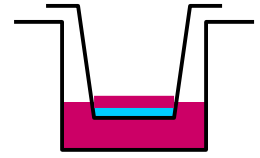

Figure 5
- Change the media without disturbing the hydrogel. As the gelled Corning PuraMatrix is difficult to see, this is best accomplished by removing approximately 2/3 of the media above the hydrogel with a P200 pipetter and keeping the tip above the bottom of the insert (**Figure 5**). DO NOT USE A VACUUM to aspirate media from above the hydrogel as it will disturb the Corning PuraMatrix scaffold and cells.